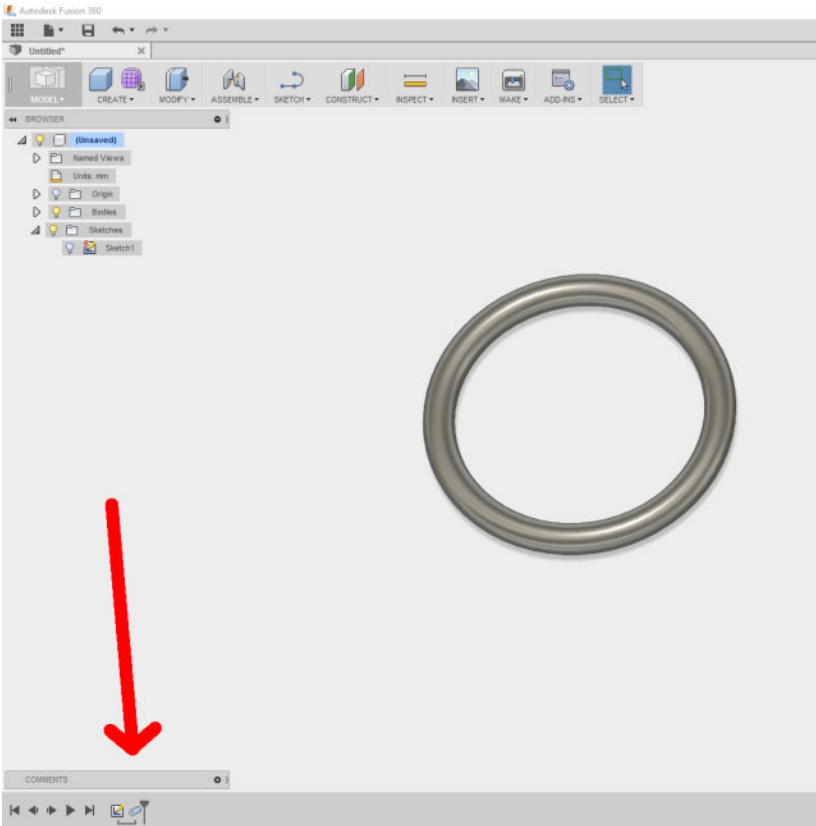

Figure 11-11. Arrow showing the “history” that is being built as you work in Fusion 360. Double-clicking any item will allow you to change that item.
11. Double-click the first Sketch icon on the bottom left of the screen, just to the right of the Play commands, as shown in Figure 11-11. This will bring you back into the initial sketch you made.